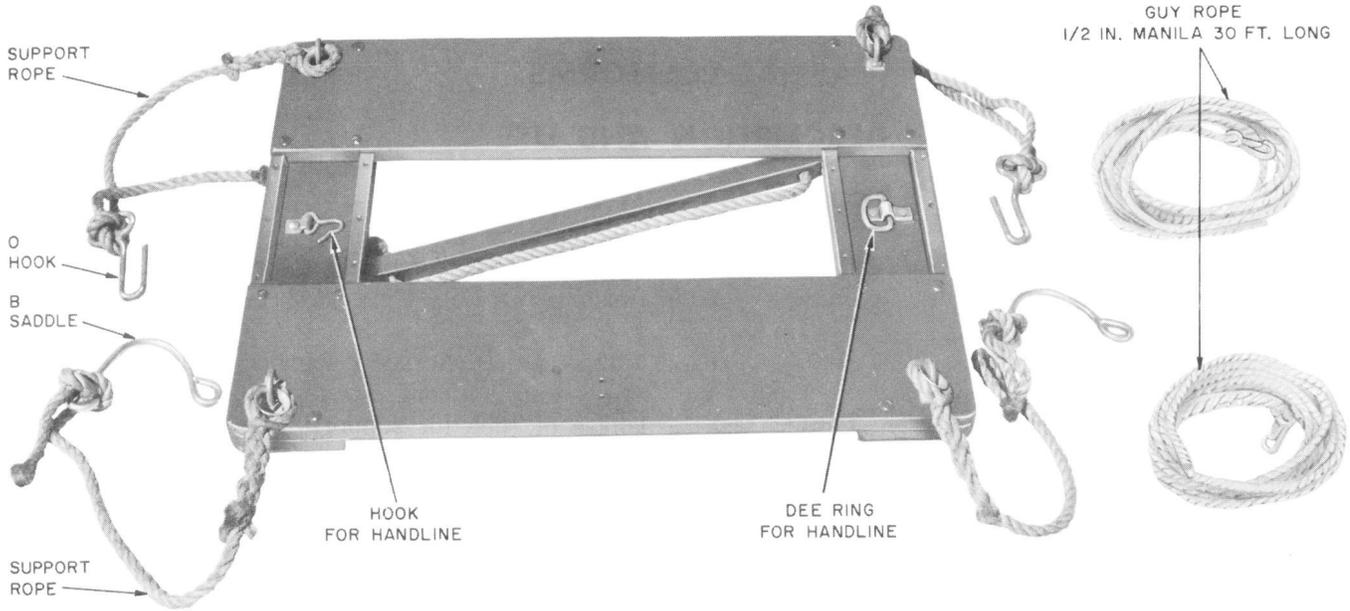

Fig. 1—D Aerial Platform
**2.04** The D Platform, which is approximately 42 inches long by 35 inches wide and weighs 38 pounds including guy ropes and support ropes, is illustrated in Fig. 1.